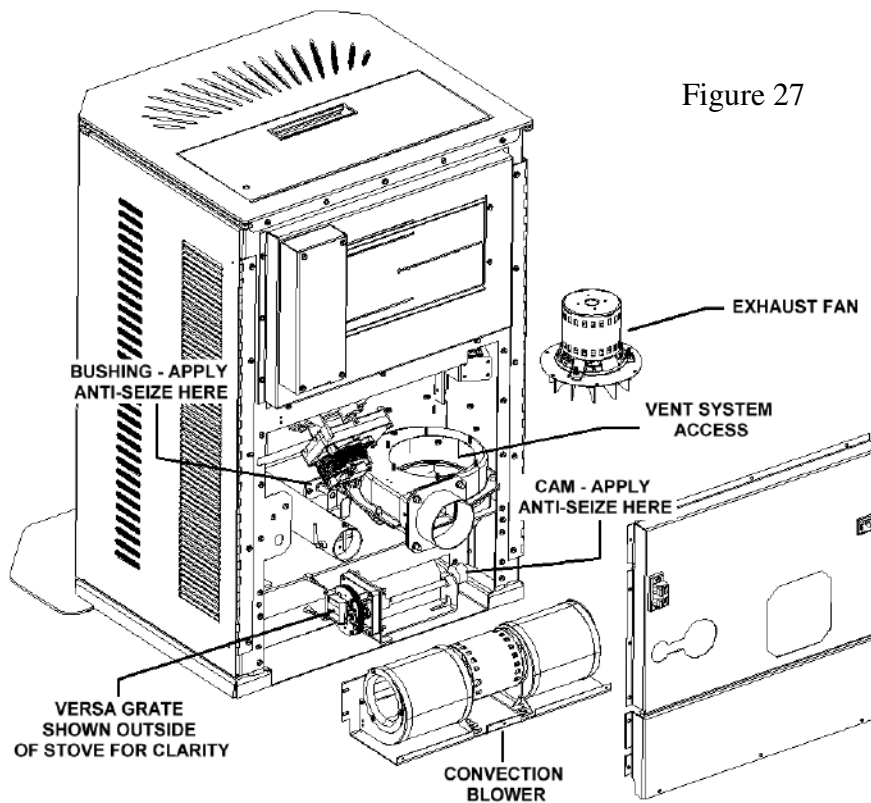

Figure 27
2. The exhaust system should be thoroughly cleaned at least annually. Call your dealer for this service. (See figure 27 on the following page)
3. The motor/fan area behind the firebox and under the hopper should be vacuumed annually. (See figure 27 on the following page)
4. The exhaust fan should be removed and cleaned with compressed air annually. Call dealer for this service. Annual oiling of the motors is not needed. (See figure 27 on the following page)
5. The Convection fans should be removed and cleaned with compressed air annually. (See figure 27 on the following page)